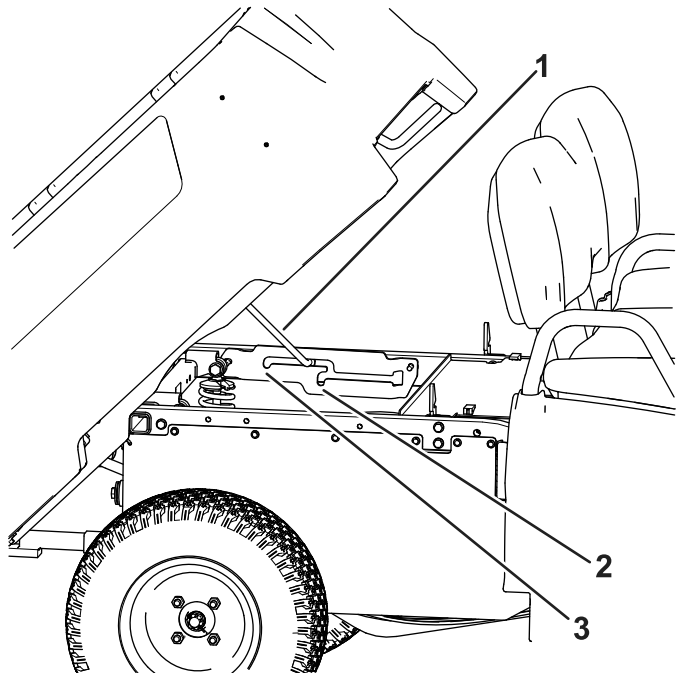

Figure 19
2. Pull the prop rod into the dump position detent slot to secure the bed for dumping (Figure 19).
2. Pull prop rod into the service position detent slot to secure the bed for maintenance (Figure 19).
2. Pull the prop rod out of the detent slot (Figure 19).